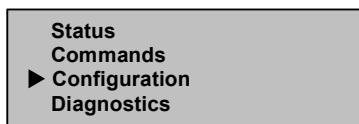

Figure 40: Main menu
1. On the main menu, scroll to Configuration. (See Figure 40.)